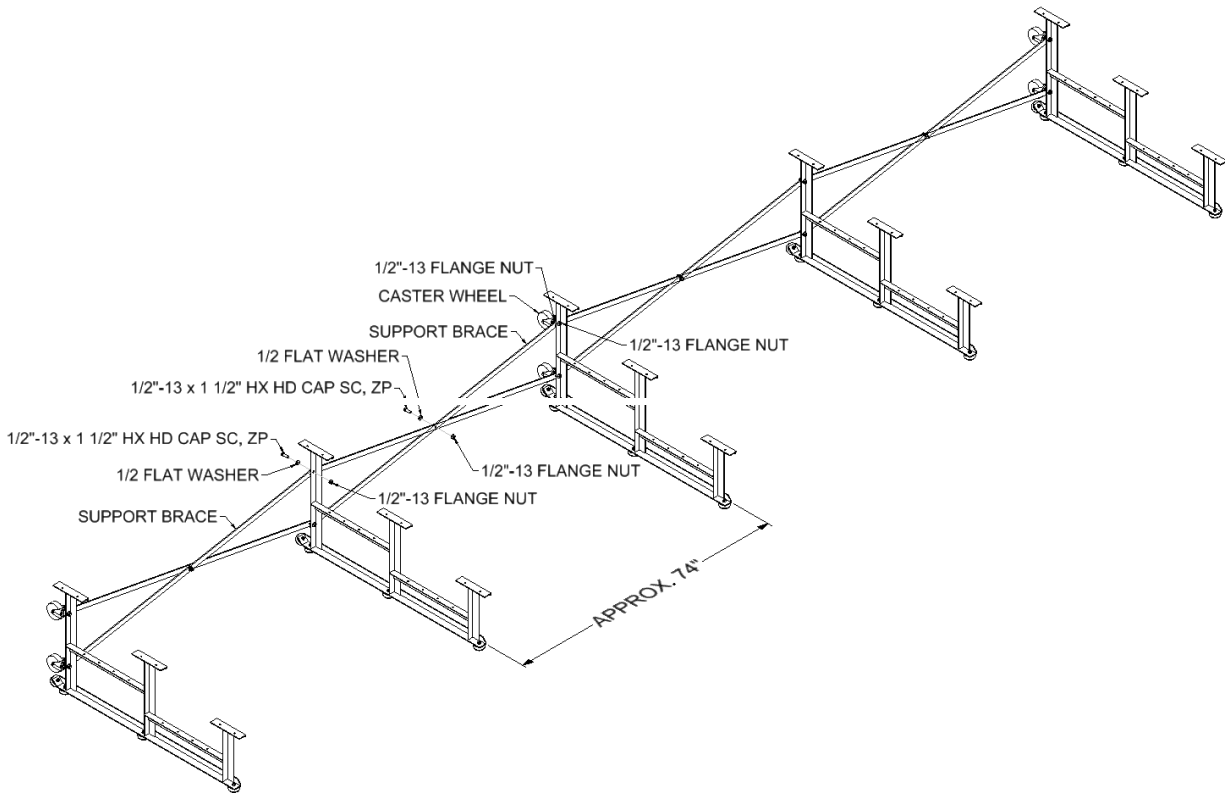

Figure 3
3. Assemble undercarriage frame as shown in figure 3. Vertically plumb and square each leg before tightening cross-bracing hardware.